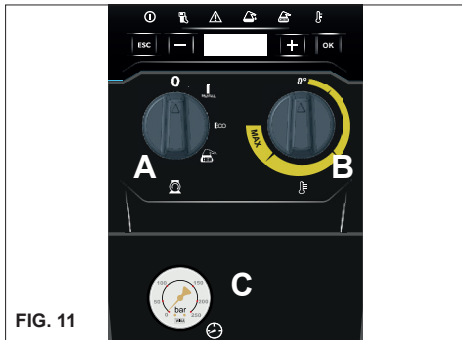

FIG. 11
**N.B. To reset the indicators, rotate the main switch "A" to the "0" position and then to the "I" position (fig.11).**